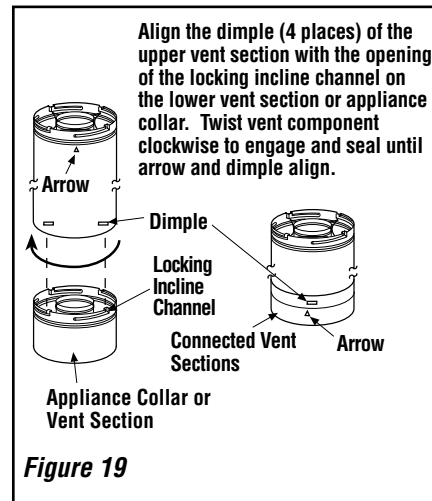

Figure 19
B. Attach vent components to appliance - Secure Vent SV4.5 direct-vent system components are unitized concentric pipe components featuring positive twist lock connections (see Figure 19).
To attach a vent component to the appliance collar, align the dimpled end over the collar, adjusting the radial alignment until the four locking dimples are aligned with the inlet of the four inclined channels on the collar (refer to **Figure 19**). Push the vent component against the collar until it fully engages, then twist the component clockwise, running the dimples down and along the incline channels until they seat at the end of the channels. The unitized design of the **Secure Vent™** components will engage and seal both the inner and outer pipe without the need for sealant or screws. If desired, a #6 x 1/2" screw may be used at the joint, but is not required as the pipe will securely lock when twisted.
Push the vent component against the previous section until it fully engages, then twist the component clockwise running the dimples down and along the incline channels until they seat at the end of the channels. **This seating position is indicated by the alignment of the arrow and dimple as shown in Figure 19.**
Secure Vent SV4.5 direct-vent system components are unitized concentric pipe components featuring positive twist lock connection, (refer to **Figure 19** on **Page 14**). All of the appliances covered in this document are fitted with collars having locking inclined channels. The dimpled end of the vent components fit over the appliance collar to create the positive twist lock connection.
D. Attach vent components to appliance - To attach a vent component to the appliance collar, align the dimpled end over the collar, adjusting the radial alignment until the four locking dimples are aligned with the inlets of the four incline channels on the collar (see Figure 19 on Page 14).
Push the vent component against the previous section until it fully engages, then twist the component clockwise running the dimples down and along the incline channels until they seat at the end of the channels. **This seating position is indicated by the alignment of the arrow and dimple as shown in Figure 19 on Page 14.**
The elbows feature a twist section to allow them to be routed about the center axis of their initial collar section to align with the required direction of the next vent run element. **Twist elbow sections in a clockwise direction only so as to avoid the possibility of unlocking any of the previously connected vent sections (see Figure 19 on Page 14).**